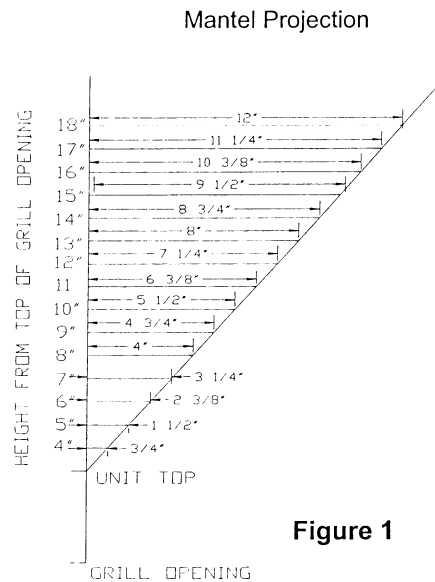

Figure 1
- From heat outlet to mantle: See figure 1.**